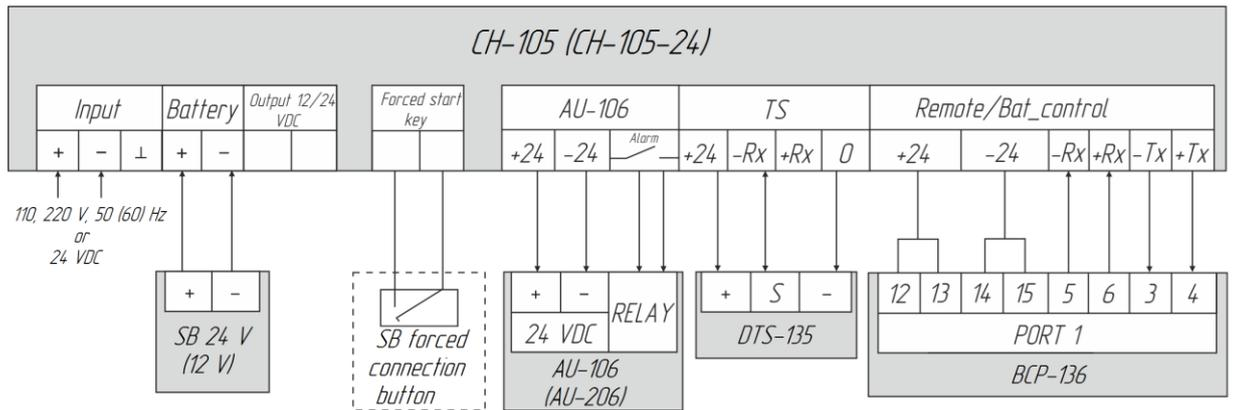

Figure 3 – The Product’s connection diagram
1.3.2.1 DTS-135 is installed on rechargeable SB and controls its current temperature. Use DTS-135 only with gel batteries in order to prevent them from “thermal runaway” in case of their buffer connection. DTS-135 is connected to “TS” terminal, see Figure 3.
AU-106 (AU-206) is connected to group of terminals “AU-106”, see Figure 3. Opening (closing) of special charger relay contacts ensures alarm switching on/off: when alarm is switched on – “Alarm” contacts open, when alarm is switched off – close.
BCP-136 is connected via standard RS-422 interface; it is connected to “Remote/Bat_control” charger terminal, see Figure 3.
Forced connection of SB to load circuit is carried out by closing contacts of “Forced start key” terminal, see Figure 3.
Note – Voltage of the Product “Output 12/24 VDC” terminal, see Figures 3–6, is directly connected to voltage of SB connected to Product “BATTERY” terminal, see Figures 3–6; thus, if SB with voltage 12 V is connected to charger, voltage of “Output 12/24 VDC” terminal is 12 V; if SB with voltage 24 V is connected to charger, voltage of “Output 12/24 VDC” terminal is 24 V.